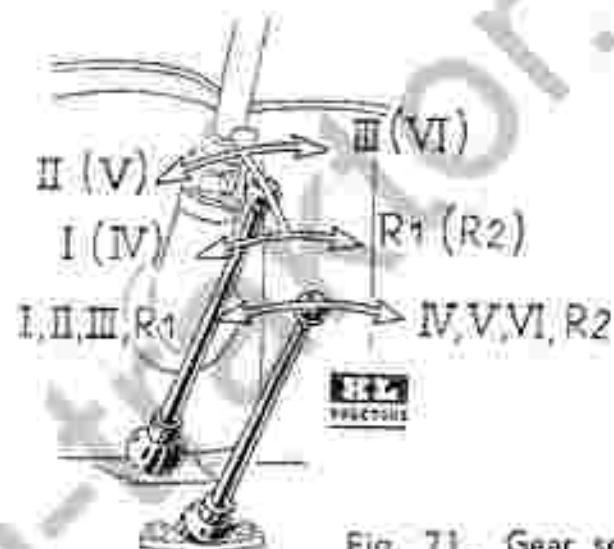
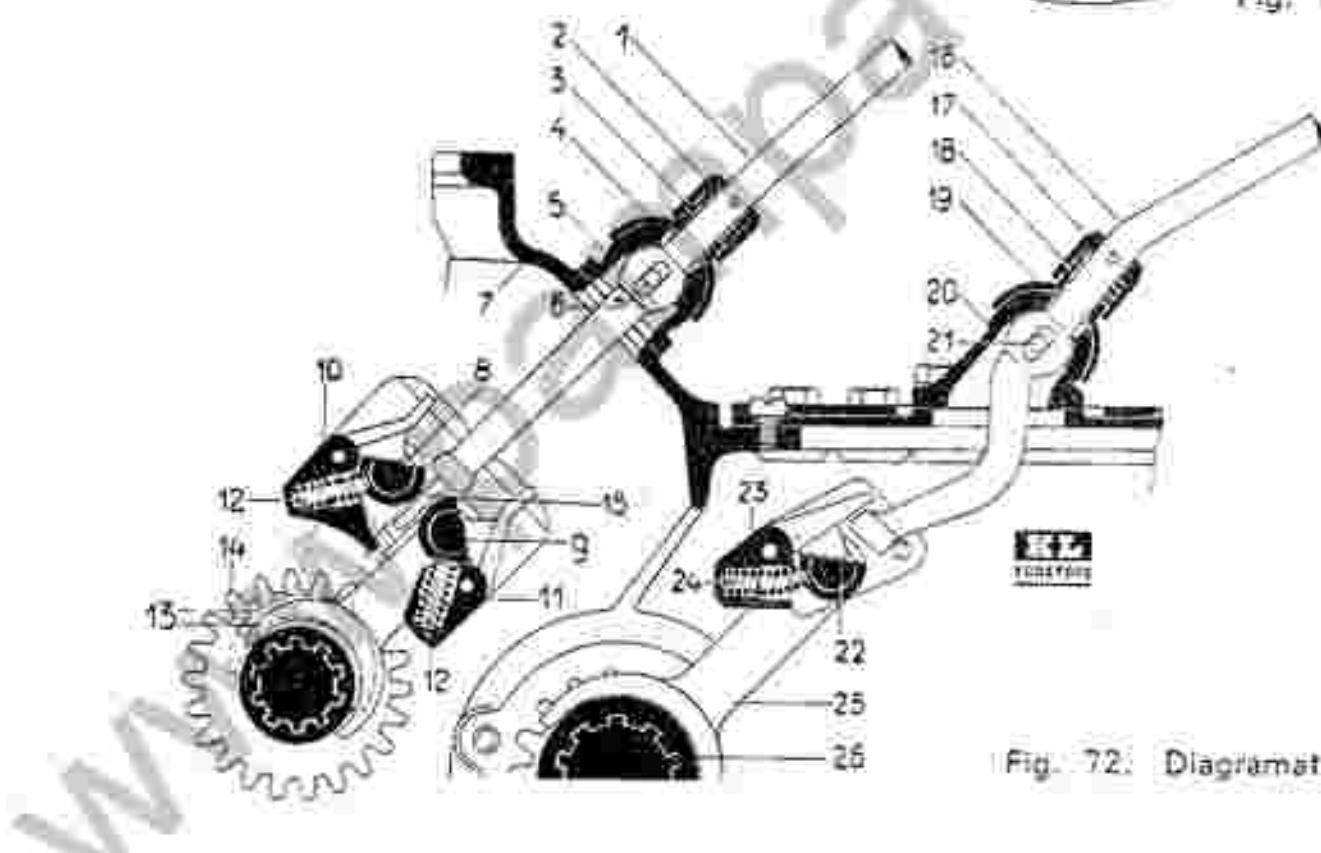

Fig. 71. Gear selection.
Fig. 72. Diagrammatic gear selection.
GEAR SHIFTING GENERAL - The K.L. Tractor has six gears or travelling speeds. The various gear changes are effected by gear shift levers (1) Fig. 72 and (16) Fig. 72. All gear changes must be made with clutch disengaged. Rough handling when shifting gears will inevitably lead to damaged gears. Correct gear changing is silent. To avoid "crashing" adopt the following procedure:
K.L. Tractors have two gear shift levers, the primary lever (1) and the secondary lever (16) Fig. 72. When changing gear, first set the secondary lever (16) movable in two directions, and then the primary lever (1) which can be placed in four different positions, as shown in Fig. 71. Looking forward, the secondary lever (16) is moved from neutral:
In order to shift from 1st to 4th, from 2nd to 5th, from 3rd to 6th, and from 1st to 2nd reverse or vice versa, only the secondary gear shift lever need be pushed to the opposite side, but only when the tractor is stationary. When engaging 1st or 4th speed or reverse the primary lever will spring forward half an inch, thus automatically locking itself into position, therefore, MOVE THE LEVER in the direction indicated by the arrow, Fig. 71, UNTIL THE SNAPPING OF THE ANCHORAGE CLIP (10) OR (11) FIG. 72, IS DISTINCTLY FEEL ON THE LEVER. Then let in the clutch. For disengaging, pull lever back, thus unlocking it and slide into neutral. In case of 2nd and 5th, 3rd and 6th gear, the locking action takes place when the primary lever springs backwards, therefore push forward to disengage. The secondary lever locks itself by springing forward and is disengaged by being pulled back. If, due to obstruction of the gear teeth, the primary lever cannot be shifted, place lever in neutral, disengage and engage clutch again, when the obstruction will be overcome. In case the secondary lever cannot be shifted, set primary lever first, disengage and engage clutch again, when it will be possible to shift the secondary lever.